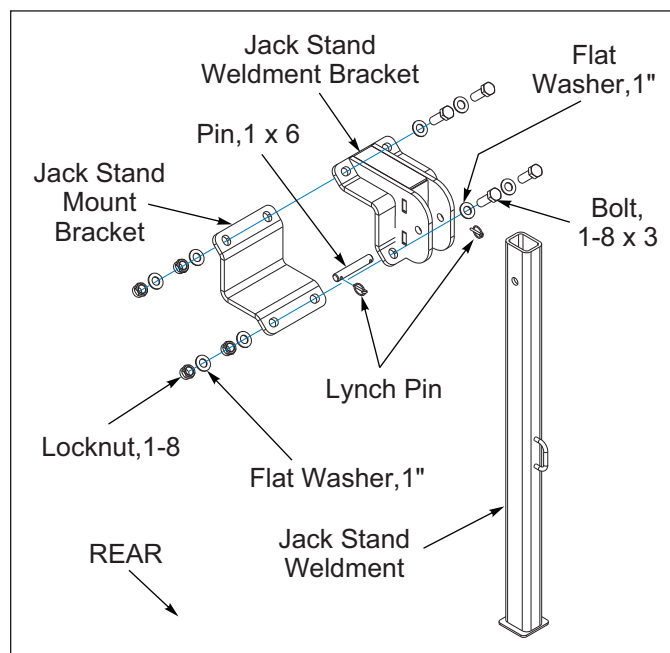

Figure 3-2: Rear Jack Stand
1. With the Jack Stand Mount Bracket positioned on the bottom side of the rear Frame, attach the Jack Stand Weldment Bracket (with the clamp facing out rear-ward), using 1-8 x 3 Bolts, 1" Flat Washers and 1-8 Locknuts. *See Figure 3-2.*